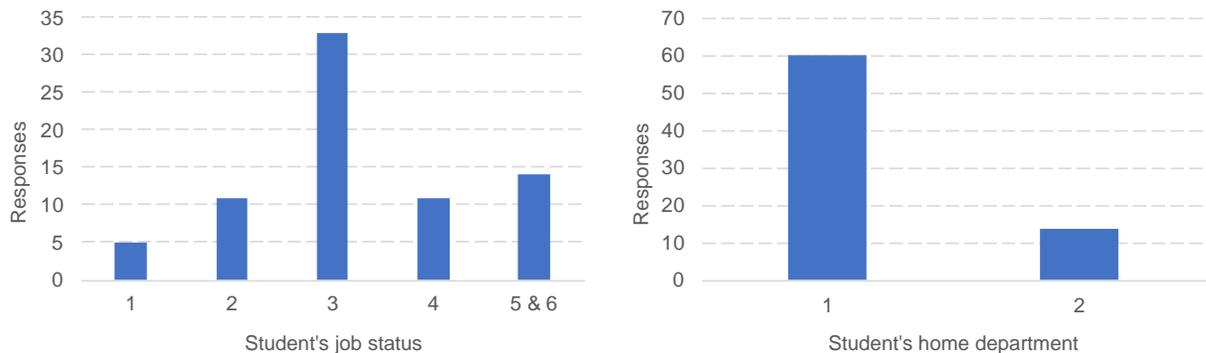

Figure 7. Responses from students about their job status while taking this course (left) and their major (right; 1: Civil Engineering, 2; Other majors).
This course presents an additional challenge coming from diverse bodies of students. For example, most students answered that they work at least part-time while doing the course work. Figure 7 (left) shows the response of students on the following inquiry:
- (1) Full-time job in Civil Engineering or related field
- (2) A part-time job in Civil Engineering or related field
- (3) Internship in Civil Engineering or related field
- (4) Full-time, part-time, or internship in other fields
- (5) None of the above
- (6) I don't want to answer
More than 30 students responded that they are doing an internship in Civil Engineering or related field (3), while about 16 students responded that they are working either a full-time or part-time job in Civil Engineering or related field (1&2). In addition, about 11 students responded that they are doing either full-time, part-time, or internship in other fields (4). These combined number of (1)-(4) is more than 75% of all students. It implies that many students may not have enough time to study after the class, compared to other full-time students. Moreover, more than 10 students are from different major other than Civil Engineering (Figure 7, right). Given those circumstances, showing many problems/examples solving could help students achieve the key learning objectives set for this course.